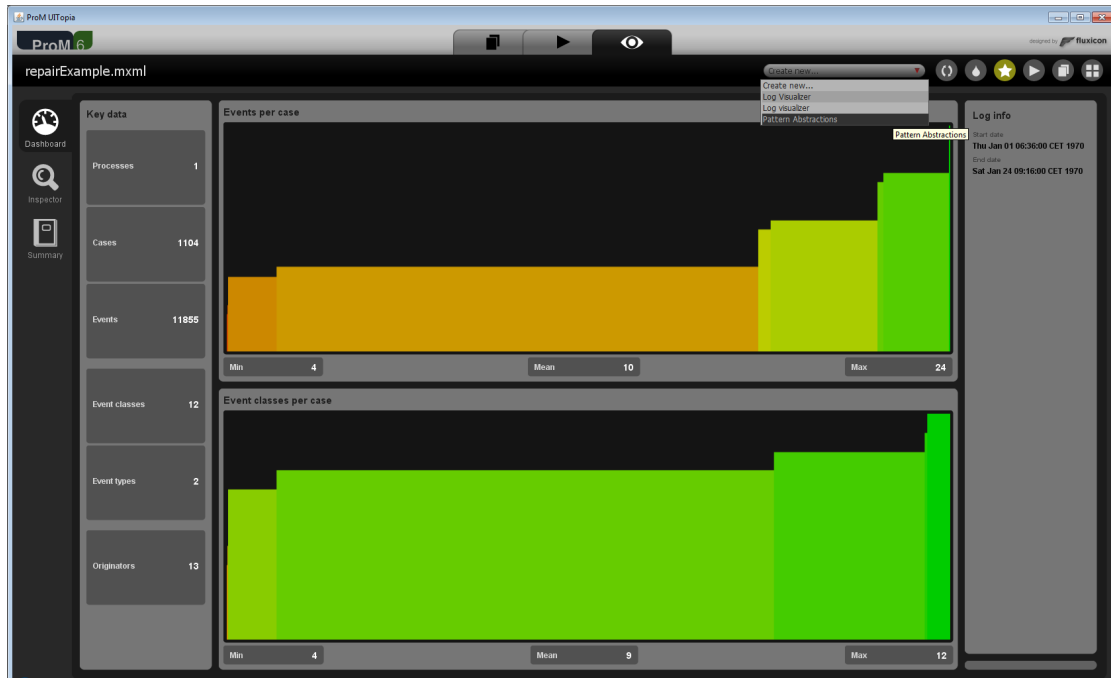

Figure 10: Selecting Pattern Abstractions Visualizer
- Select the “Visualizer” button. By default, you will notice the “Log summary” visualizer. Change the visualizer to “Pattern Abstractions” as shown in Figure 10.